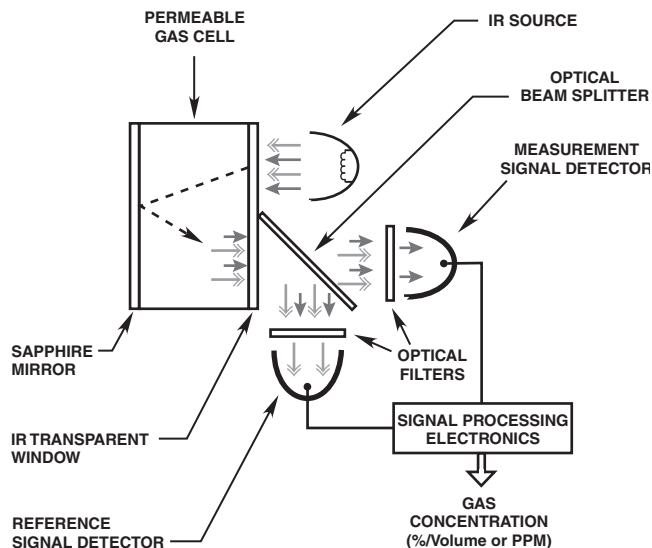

Figure 1—Measurement Scheme for Infrared Gas Detector
Carbon dioxide gas is diffused through the weather baffle assembly into the internal measurement chamber, which is illuminated by an infrared (IR) source. As the IR passes through the gas within the chamber, certain IR wavelengths are absorbed by the gas, while other IR wavelengths are not. The amount of IR absorption is determined by the concentration of the carbon dioxide gas. A pair of optical detectors and associated electronics measure the absorption. The change in intensity of the absorbed light (active signal) is measured relative to the intensity of light at a non-absorbed wavelength (reference signal). See Figure 1. The microprocessor computes the gas concentration and converts the value into a 4 to 20 milliampere current output or digital process variable signal, which is then communicated to external control and annunciation systems.